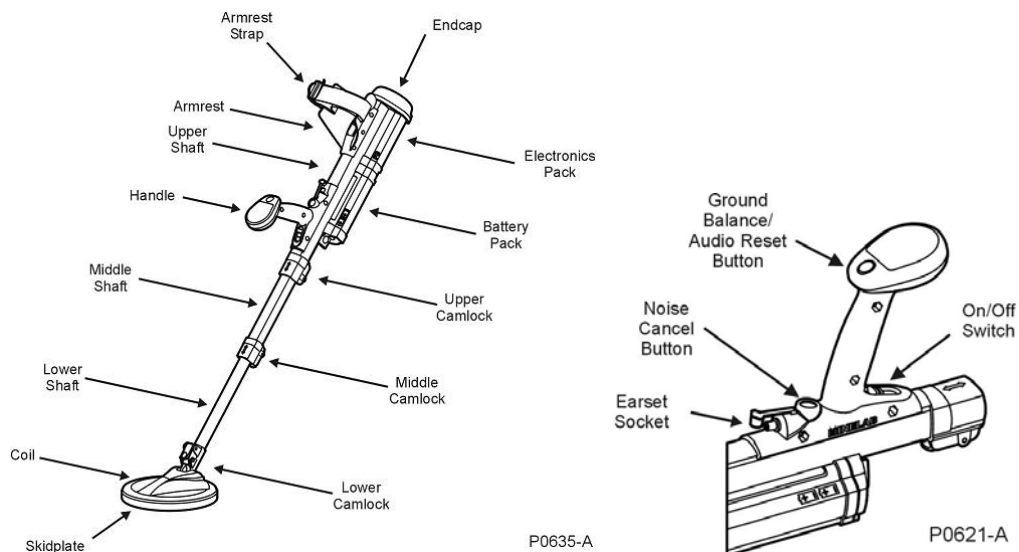

Figure 2: F3 Major Components & Handle Controls
2.1 **Mechanical Testing.** Confirm that all components are present in the hard case and unpack, fully extend and insert batteries into the F3 as described in the F3 Operations Manual. Figure 2 identifies the major components of the F3. During mechanical testing check the: